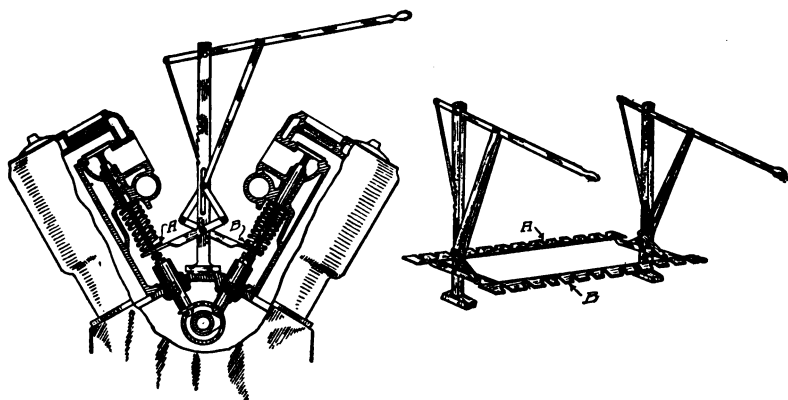

Fig. 171. Method of Compressing All Twenty-Four Packard Valve Springs at Once
*Twelve-Cylinder Valve Remover.* One of the objections raised to the twelve-cylinder motor is the trouble of removing and grinding all the valves. The Philadelphia Branch of the Packard Company has overcome this disadvantage by constructing the special tool shown in Fig. 171. This lifts the whole 24 valves at once. It consists of the central stand, which rests on the flat top of the crankcase, having a long arm and connected levers at the bottom to work the spring compressors. These, as will be seen at *A* and *B*, are really the special feature of the outfit, as they are specially constructed to fit around the valves in sets of 12 each. A ratchet holds the device locked, so that after it is applied and fitted to all the valves, they can be forced up and locked; then the matter of valve removal, regrinding, and replace-